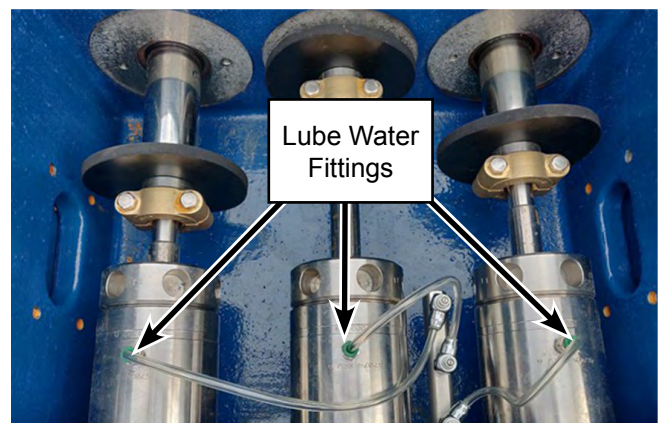

Figure 20: Lube Water Stuffing Box Connections.
10. Remove the water lubrication fitting (Figure 20) from each stuffing box.